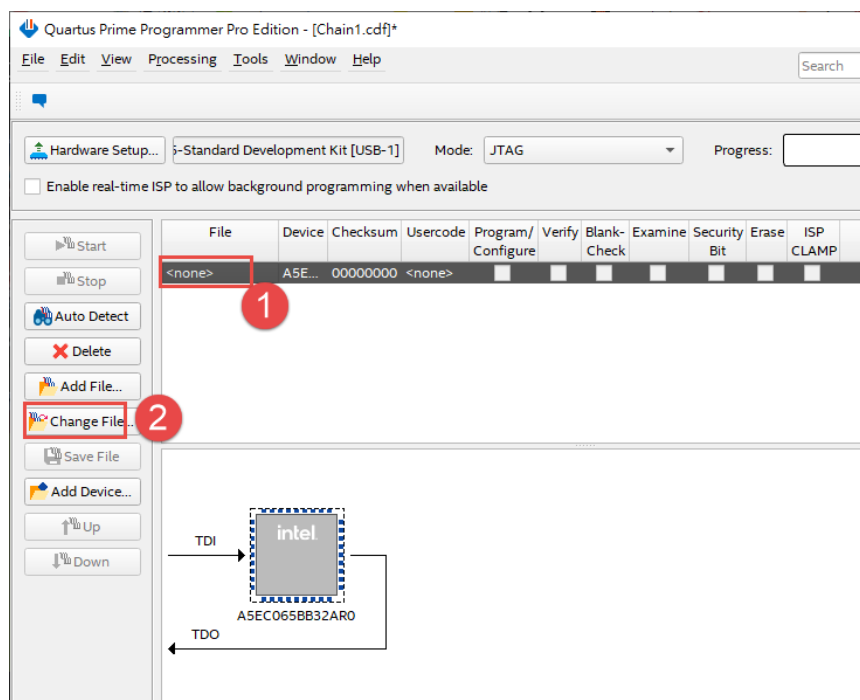

Figure 3-7 Open the .sof file to be programmed into the FPGA device
5. Right click on the FPGA device and open the .sof file to be programmed, as shown in **Figure 3-7**.